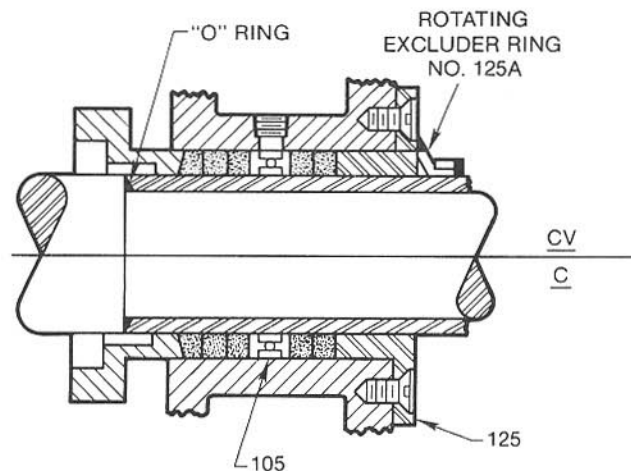

Figure 3 — SIDE SUCTION — 5000 SERIES
1. Side Suction (See Figure 3) 5000 Series